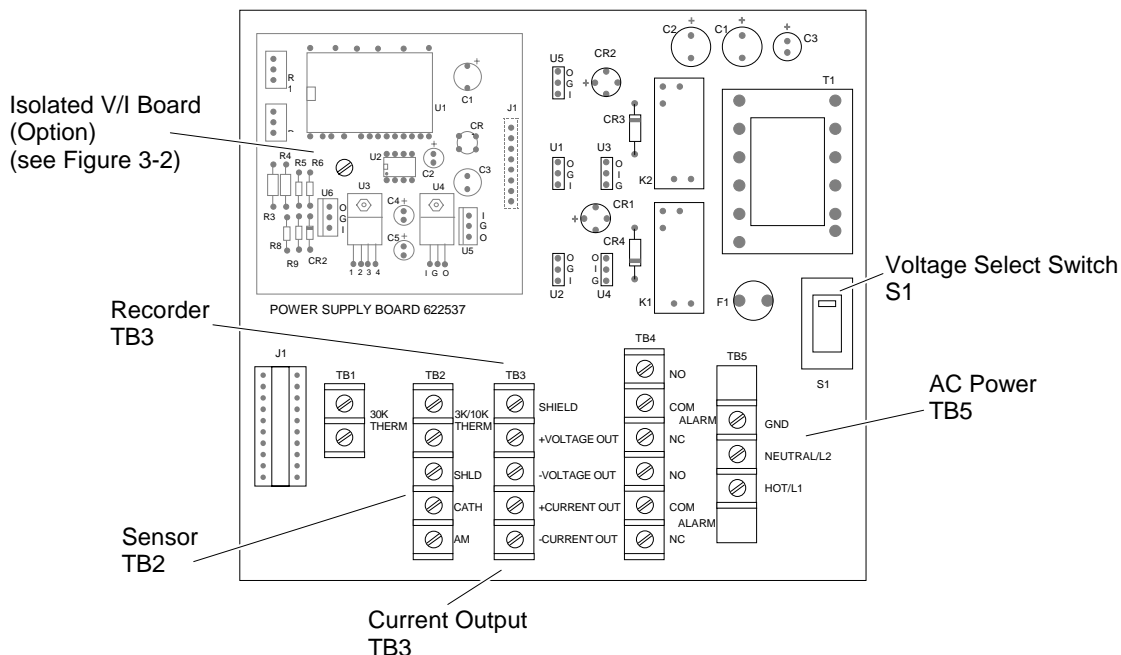

FIGURE 2-1. POWER SUPPLY BOARD
Electrical power is supplied to the monitor via a customer-supplied three-conductor cable, type SJT. minimum wire size 18 AWG. Route power cable through conduit and into appropriate opening in monitor enclosure. Connect power cable leads to terminal strip TB5 on the power supply board, as shown in Figure 2-1 and drawing 622228.
3. Verify that the line voltage selector switch S1 is set to indicate the nominal line voltage: either 115 or 230 (Figure 2-1).
A ground terminal (TB5-GND) is provided on the power supply board. Refer to Figure 2-1. This terminal must be connected, via the ground lead of the three-conductor power cable to a good earth ground.
If a long cable is used, it should be routed to the amplifier through appropriate conduit. Connect the amplifier end of the cable to terminal strip TB2 on the power supply board, as shown in Figure 2-1 and drawing 622228.
1. Connect leads of shielded recorder cable to VOLTOUT + and VOLTOUT - terminals of TB3 on power supply board (Figure 2-1). Connect shield to SHD terminal.
1. Verify that the current output board (Isolated V/I Board) is properly mounted on the power supply board in connector J2. See Figure 2-1. If originally ordered with the oxygen monitor, the board is factory installed.
The alarm output provides two sets of relay contacts for actuation of alarm and/or process-control functions. Leads from the customer-supplied external alarm system connect to terminal block TB4 on the power supply board. See Figure 2-1 and drawing 622228.